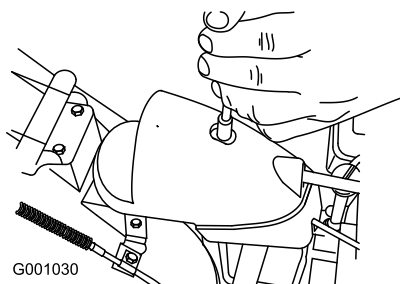

Figure 59
1. Remove the fastener on the gear cover (Figure 59), lift the front of the cover up, and slide it back and out of the way.